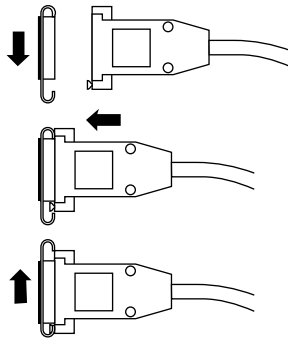

Figure 2-17 Connecting the Standard Ethernet Cable
- Make sure the sliding bracket on the Ethernet port on the workstation is pushed all the way down, as shown in Figure 2-17.